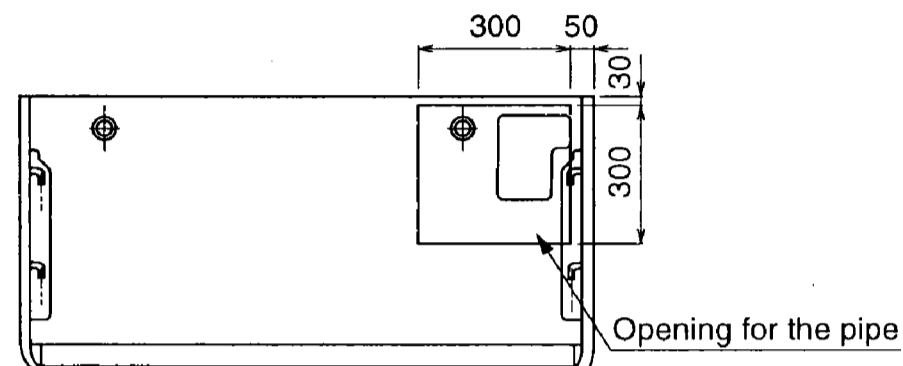

Fig. 1
- Remove the long life filter at the bottom of the unit. (Fig.1)
- Remove the back plate assembly. (Fig.1)
1) Make a  $300 \times 300$  mm opening in the ceiling by using the paper pattern for installation of the air conditioner. This opening is to pass the pipe along. See Fig. 1. (Make sure that with the air conditioner in place, the opening is invisible from below.)